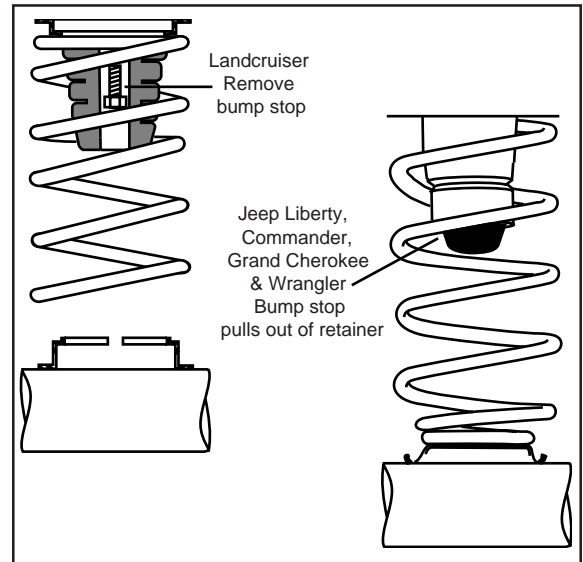

Figure 1
4. Landcruiser: Using a socket and extension, remove the rubber bump stop from the upper spring seat and discard (Figure 1).
NOTE: Jeep Liberty, Commander, Grand Cherokee & Wrangler: Pull jounce bumper out of cup (Figure 1).
If the vehicle's headlights are shining into the trees or the vehicle is leaning to one side, then it is not level (fig. 1). Raise the air pressure to correct either of these problems and level the vehicle.